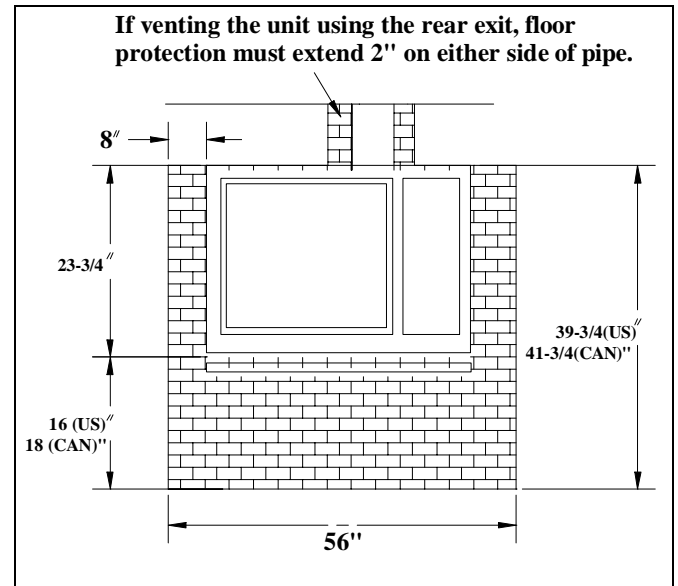

Figure 1. Hearth Protection for top vent installations
- A non-combustible floor protector that you obtain from your dealer, or any other noncombustible material. A floor protector is any noncombustible surface laid on the floor underneath the stove that extends, 16 inches -US (or 46 cm in Canada) beyond the fuel loading door and 8 inches (20 cm) beyond each side of the cook stove. (See Figure 1) The hearth protection for your Deva 100 must have an R-value of at least 0.89 or be a UL Listed floor protection.